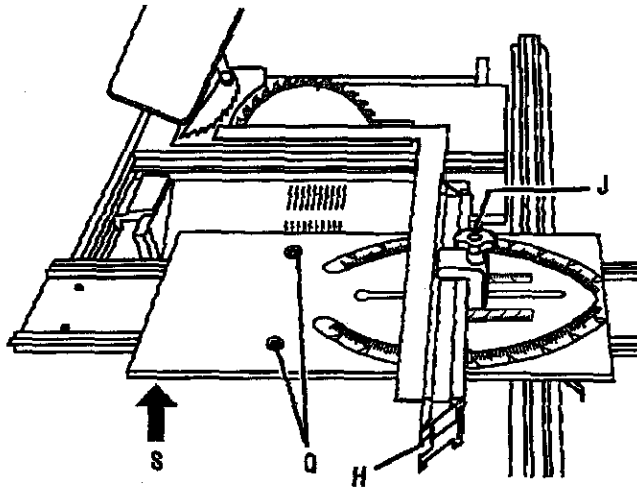

Fig. 35
- Push left rear of miter table snugly against miter base as shown by the arrow (S) in figure 35 and secure.